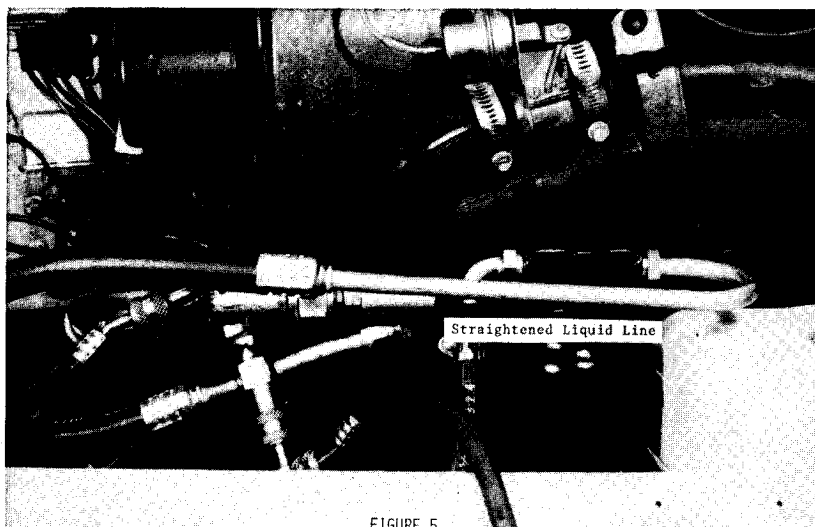

FIGURE 5
4. Drill hole for sheet metal screw in the center of the recirculating air opening on the evaporator housing assembly. Clamp heater hoses in place as shown in Figure 5.